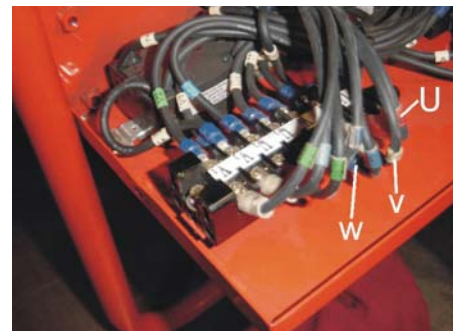

Figure 13. Terminal Board Connections
8. Route and connect the **RED** wire on the capacitor module to the **U** position (contact) on the terminal board as shown in Figure 13. Connect the **WHITE** wire to the **V** position (contact) and connect the **BLUE** wire to the **W** position (contact) on the terminal board. Use Tie-wraps to secure all wires.